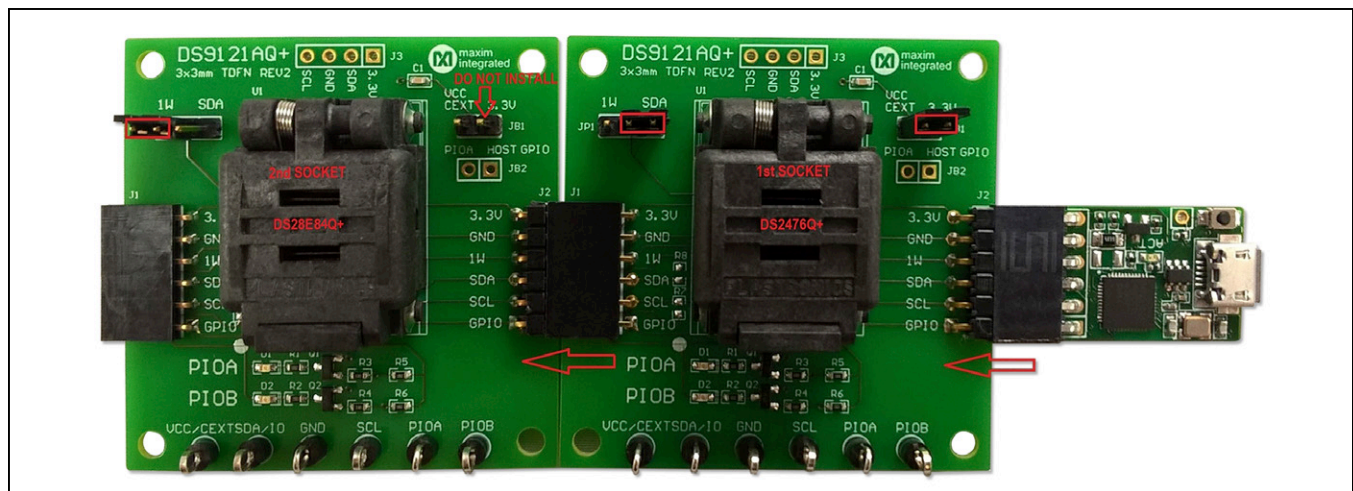

Figure 9. DS9481P-300 and DS9121AQ
- d) Connect the 1st DS9121AQ J2, 6-pin female socket, into the DS9481P-300#, 6-pin male plug per Figure 9.
- e) Connect the 2nd DS9121AQ J2, 6-pin female socket, into the 1st DS9121AQ J1, 6-pin male plug per Figure 9.
- f) For the 1st DS9121AQ+ socket boards that contains DS2476, configure jumpers JP1 to use SDA and JB1 to use 3.3V per Figure 9.
- g) For the 2nd DS9121AQ+ socket boards that contains DS28E84, configure jumpers JP1 to use 1W and JB1 do not install per Figure 9.